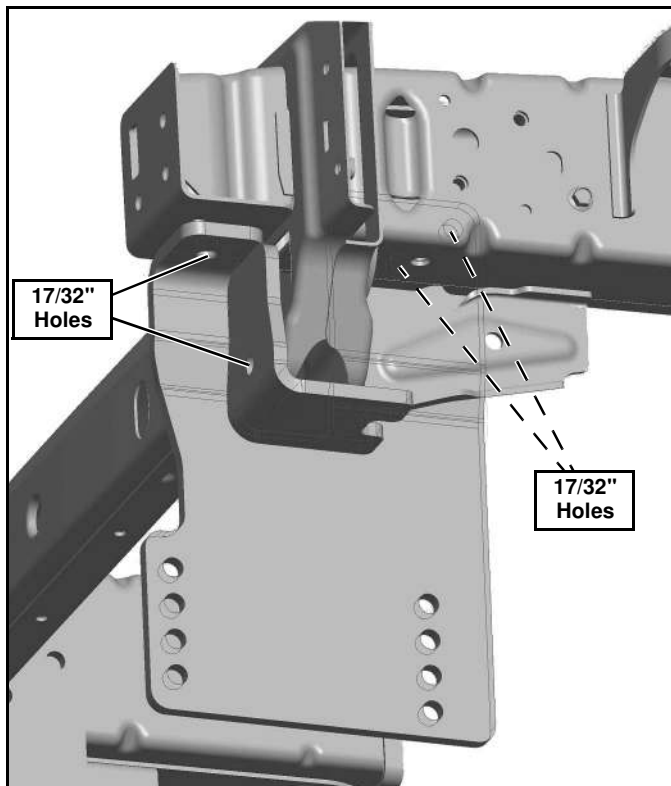

Figure 4
4. Use the four hole holes in Driver Side Mount Weldment (#2) as a template to center punch and drill $\frac{1}{4}$ " pilot then $\frac{17}{32}$ " holes in the truck frame (not through both sides of the frame) (See Figure 4).